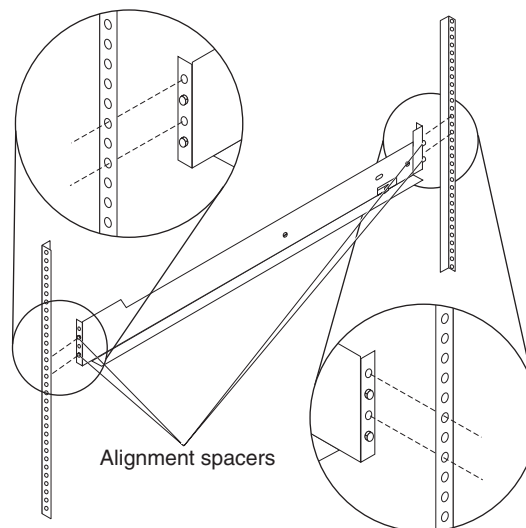

Figure 2. Positioning the support rails in the rack
2. Hold the front of the left support rail against the inside of the front rack cabinet support flange, and extend the rear of the support rail until it makes contact with the rear rack cabinet support flange. The alignment spacers at the rear of the support rail slide into the holes at the rear of the rack cabinet, as shown in Figure 2.